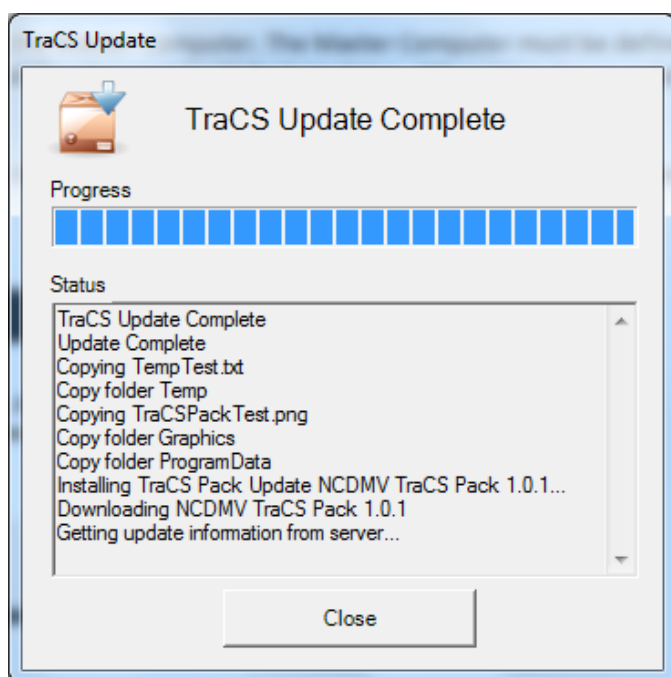

Figure 152. TraCS Update Window
2. Click **Yes**. The TraCS Update window opens, as shown in Figure 152.